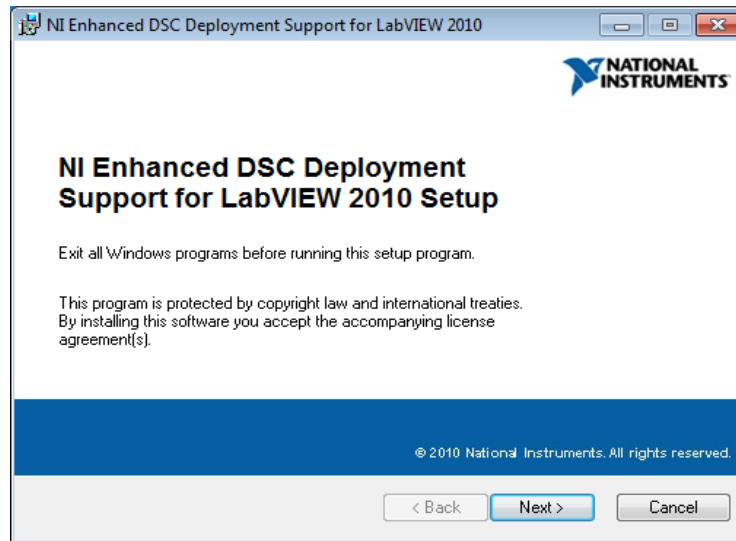

Figure 1-15 LabVIEW RTE Installation Initialization
2. Double click on the downloaded **LVRTE2010std.exe** file. A screen as shown in Fig.1-15 will appear. Press **Next»** button.